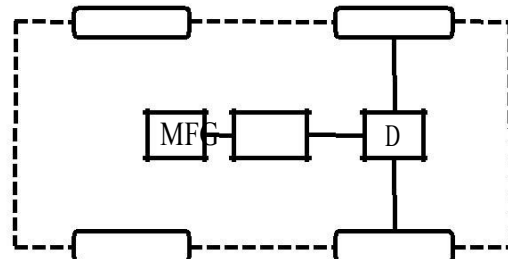

Figure 3b: EV configuration without clutch and gearbox [1]
- In **Figure 3b** a single EM configuration without the gearbox and the clutch is shown. The advantage of this configuration is that the weight of the transmission is reduced. However, this configuration demands a more complex control of the EM to provide the necessary torque to the wheels.